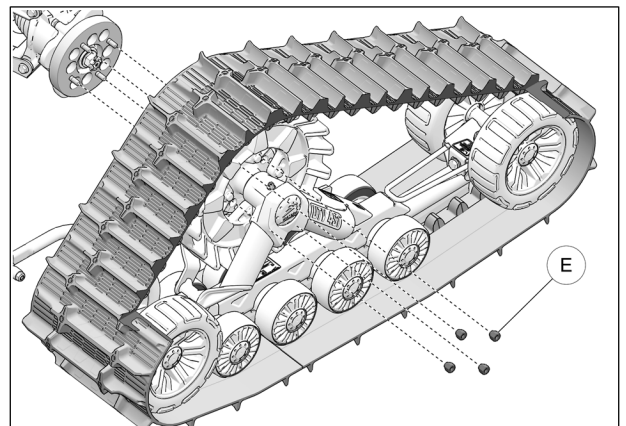

Fig. 10
10. Secure undercarriage to rear hub using the provided wheel nuts (**E**). See Fig. 10